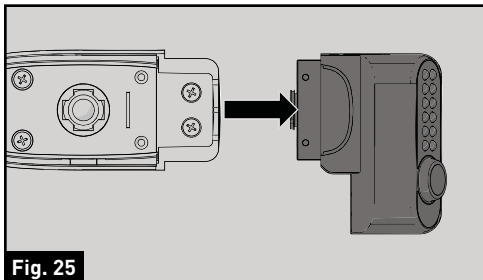
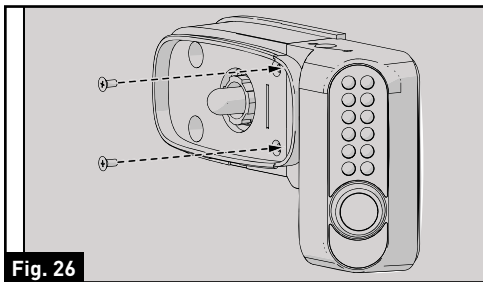

Fig. 25
Fig. 26
6. Insert the right camera into the traffic light base and secure with the two flat self-tapping screws provided. (Fig. 25 and Fig. 26)